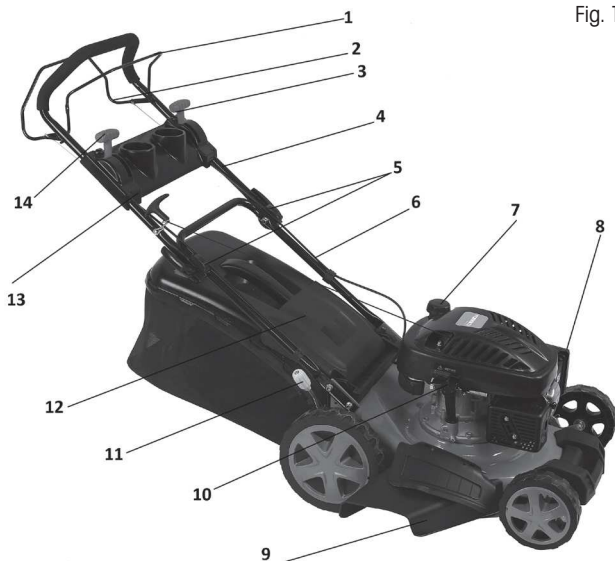

Fig. 1
3. DESCRIPTION OF THE LAWNMOWER (Fig. 1)
After unscrewing the fuel tank cap (Fig 1 – point 7), add the fuel, pouring it in all the way up to the collar of the fuel tank but do not overfill it.
The mowing height is set centrally using the central mowing height adjustment lever (Fig. 1 – point 11). You can select from 5 positions in the range of 25 to 75 mm. The middle mowing height is the most suitable for the majority of lawns.